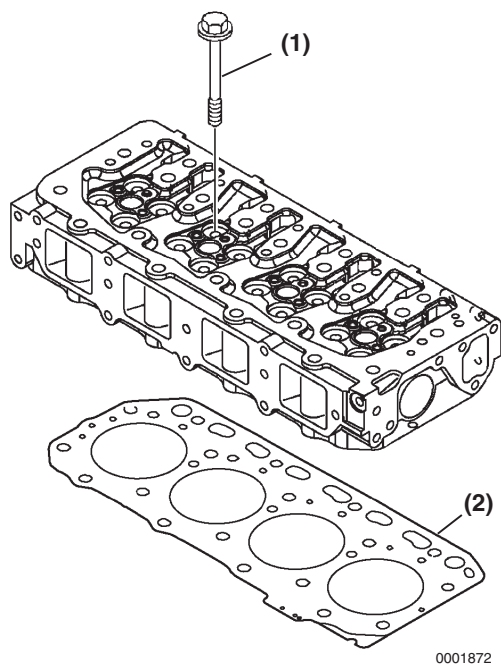

Figure 6-44
2. Remove the cylinder head bolts (Figure 6-44, (1)).
3. Lift the cylinder head away from the cylinder block. Discard the cylinder head gasket (Figure 6-44, (2)). Place the cylinder head on the work bench to prevent damage to the combustion surface.